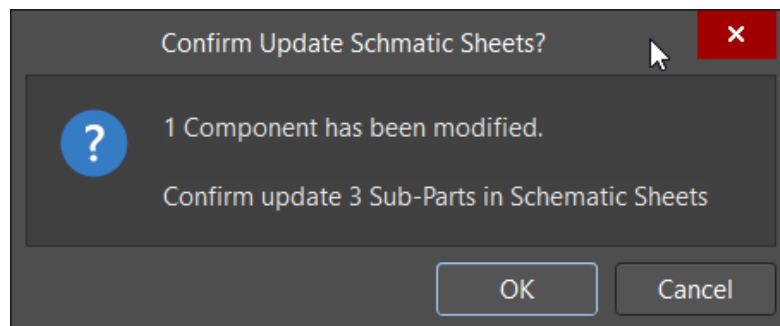

Figure 7. Confirm Update Schematic Sheets
22. Select **OK** when prompted to update 3 Sub-Parts in Schematic Sheets, as shown in Figure 7.